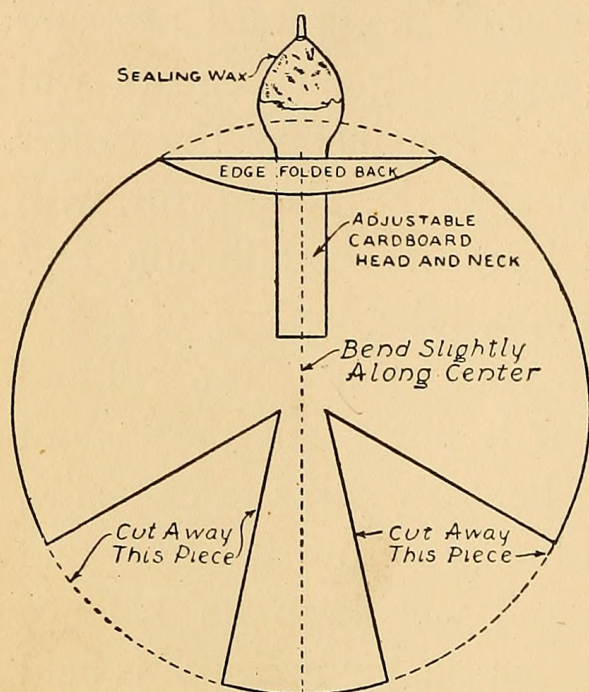

FIG. 382. — A Cardboard Bird Glider.
**A Cardboard Bird Glider** may be fashioned on the lines of the body of a bird, as shown in Fig. 382. Mark out a